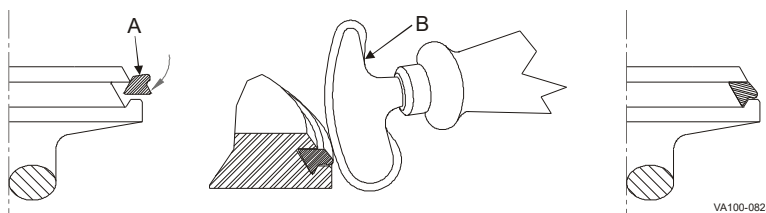
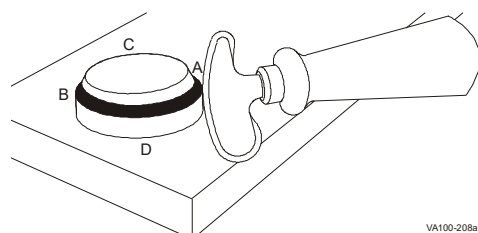

Figure 25 - Installing New Tri Ring Seat
Figure 26 - Pressing Tri Ring Into Plug
3. Lubricate the new Tri Ring (Figure 25, item A) with hot soapy water (never use lubricants).
5. Start the Tri Ring as shown in Figure 25.
6. Using the installation tool, part number 102797+ (Figure 25, item B), press the Tri Ring into the plug at locations A, B, C, and D (Figure 26). If this tool is not available, a dull, flat tool can be used. DO NOT use a knife or any other sharp item that will tear or cut the Tri Ring.
8. When properly installed, the Tri Ring seat lip will protrude slightly from the seat edge as shown in Figure 25.